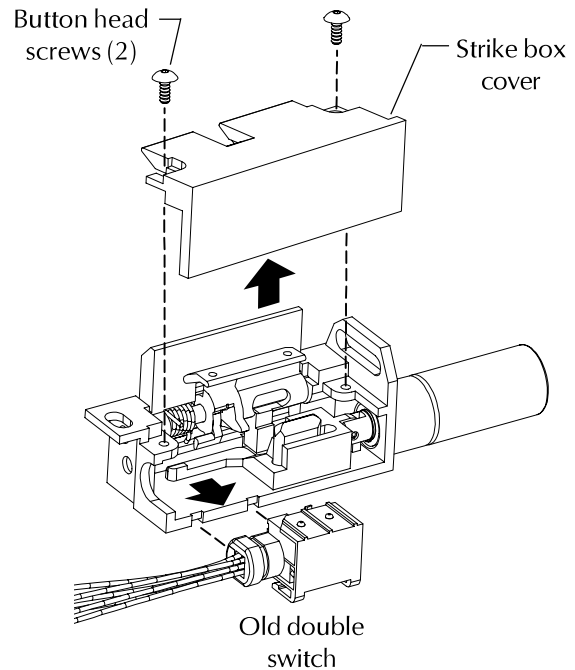

Figure 2
**2** Remove box cover (5/64" Allen wrench) and remove old double switch (Figure 2).